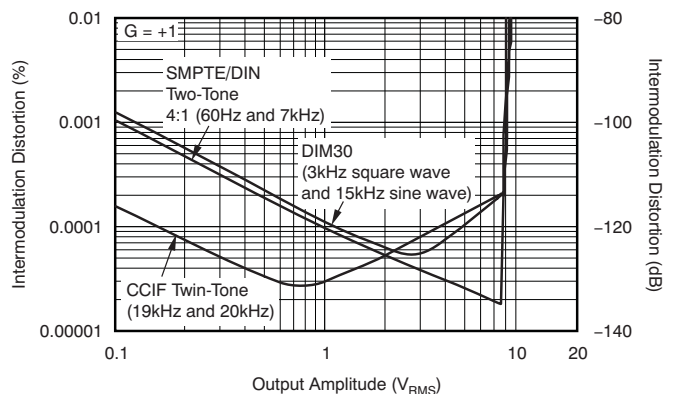

Figure 12.
(1) For measurement bandwidth, see Figure 7 through Figure 12.